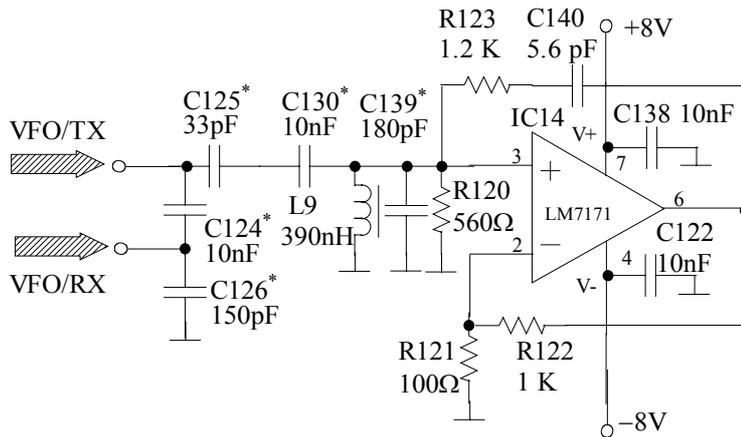
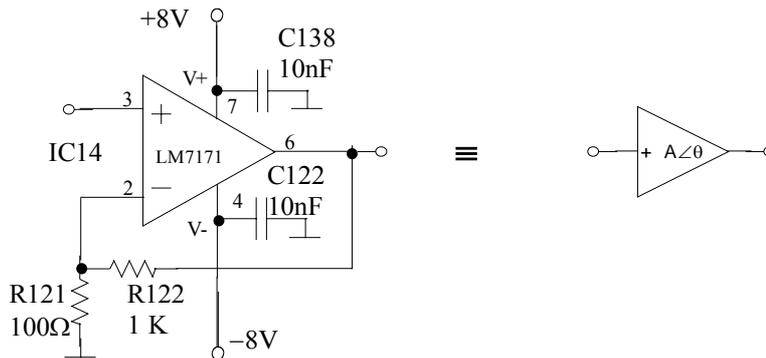

Figure 7.11 Basic oscillator circuit
Figure 7.12 Gain block of VFO
14. VFO of TRC-10 generates sine wave at frequency range of 12-13.7 MHz, approximately. VFO is an OPAMP oscillator circuit, which uses a LM7171 as the gain element. It has a basic oscillator part and a frequency variation sub-circuit. The *variable frequency* property is provided by two parallel varactors and their d.c. bias circuits. The basic oscillator circuit is depicted in Figure 7.11.
The gain providing part is the OPAMP with resistive feedback in Figure 7.11. This part is shown in Figure 7.12, separated from the rest of the VFO circuit.